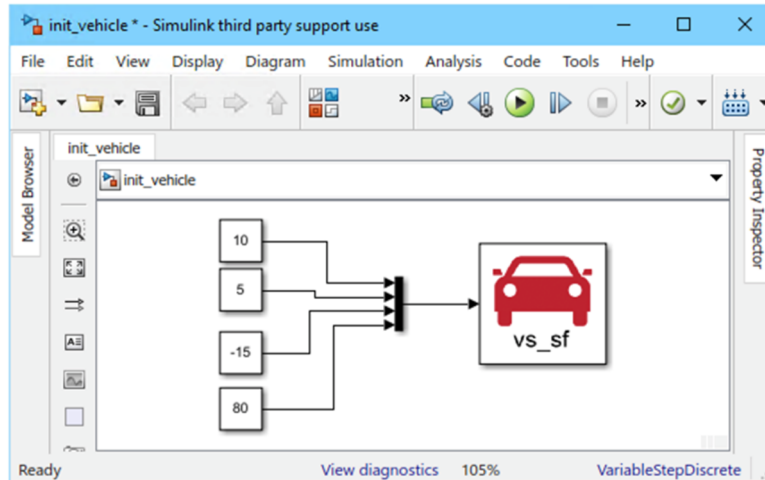
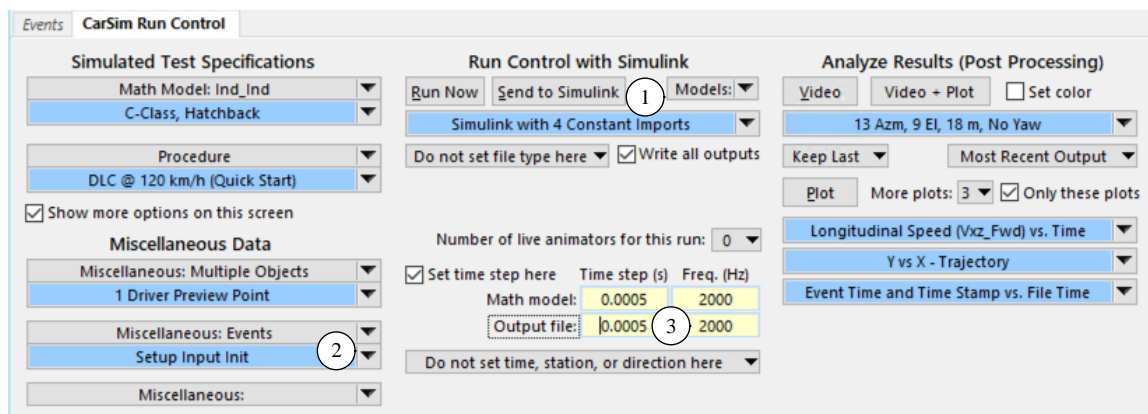
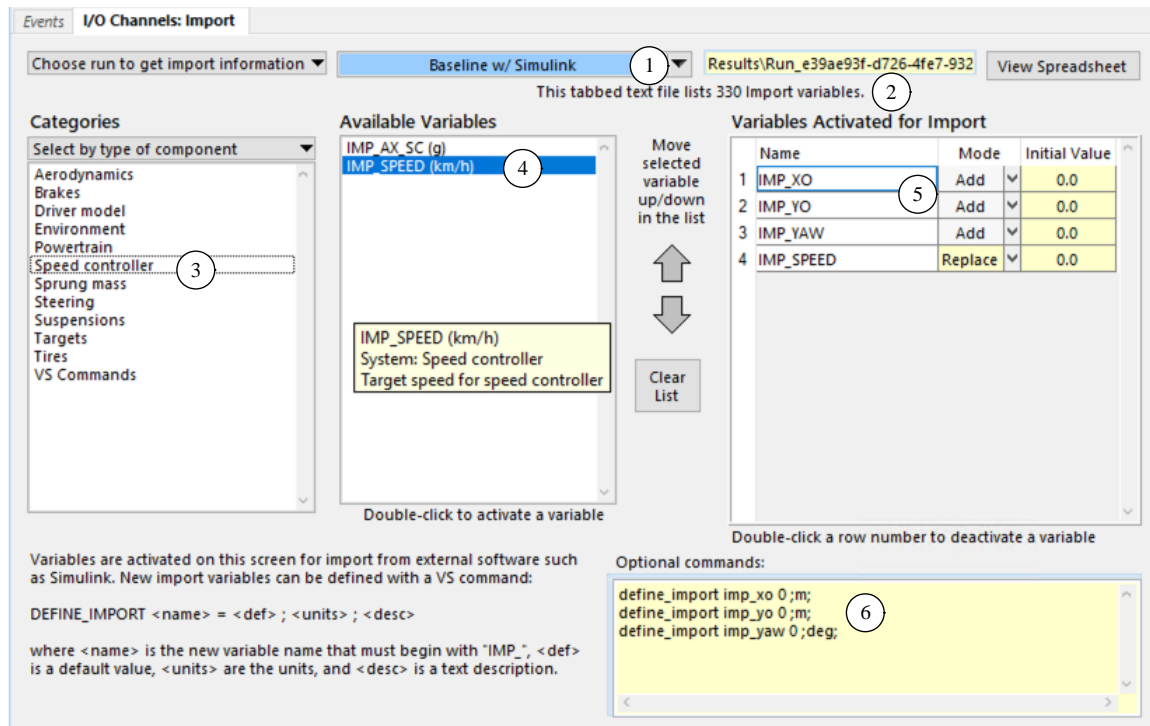

Figure 3. Simulink model that provides three constants to CarSim.
Figure 4. Run Control dataset that includes an Events dataset and a Simulink model.
Figure 5. Three import variables created with VS Commands and an existing import for speed.
However, it is possible to use imported variables for a reset performed at the end of the first time step. Consider a Simulink model that provides four constants: 10, 5, -15, and 80 (Figure 3).
This model will be used with a simulation setup based on the CarSim Quick Start Guide double lane change (Figure 4). It was modified by linking to the Simulink model ① and also an **Events** dataset ②. It has the output time step set to match the math model time step ③, to provide maximum detail in plots that will be shown later.
Figure 5 shows the **I/O Channels Import** dataset used to bring the four variables from Simulink into the CarSim model. Three of these will be used to set the initial vehicle X, Y, and Yaw variables. Imports for these variables do not exist, so the VS Command `DEFINE_IMPORT` was used to create the three new variables ⑥, and also set their units. In order to use the browser capability of the screen, the **Run Control** dataset (Figure 4) was selected ①; the pathname is shown ② with a
Having four import variables and a link to the Simulink model (Figure 3) provide compatibility between the **Run Control** dataset (Figure 4) and the Simulink model. Clicking the **Send to Simulink** button sets up the Simulink model to make the run. If the Events are not used (2), the simulation results from Simulink would use a speed of 80 km/h (after the first time step), and start in the original location.